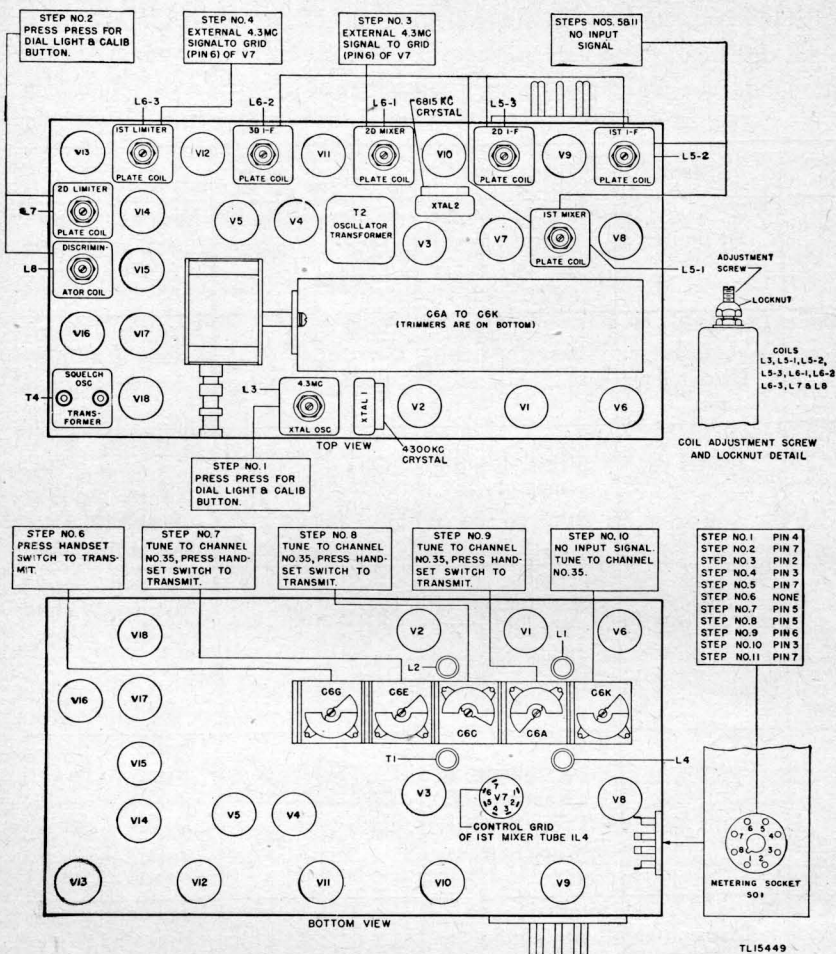

Figure 87. Radio Receiver and Transmitter BC-1000-A, location of adjustments used in alignment.
a. *DETAILS IN TEXT*. Thorough study of the preceding text which describes in detail how to align Radio Receiver and Transmitter BC-1000-A in three ways is necessary before the alignment can be made properly. The alignment chart (table XVII) is intended as a handy outline guide to the step-by-step procedures and may be used with any of the three methods of alignment. Location of adjustments used in alignment is shown in figure 87.